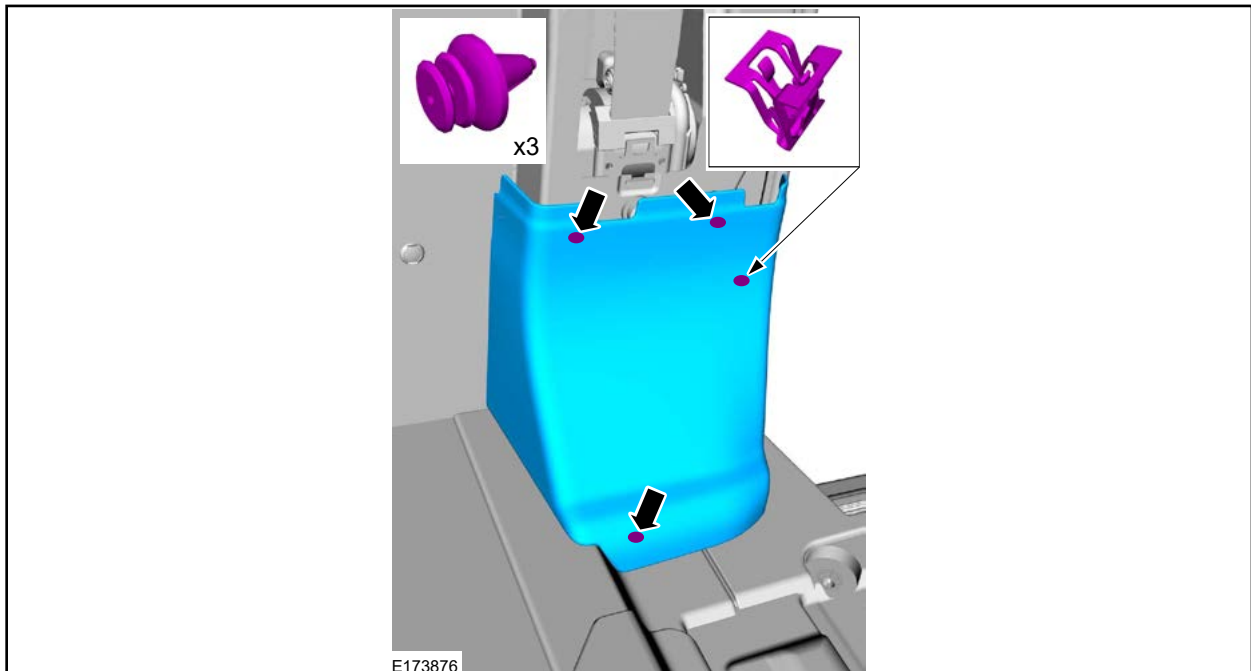

FIGURE 2
2. Release the clips and remove the LH side lower B-pillar trim panel. See Figure 2.
- Install the LH side lower B-pillar trim panel. See Figure 2.